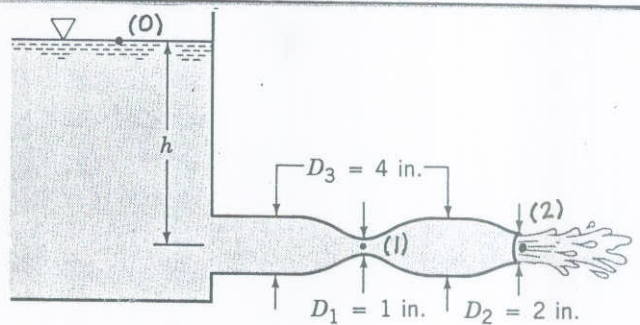

FIGURE P3.75
3.75 Water flows from a large tank as shown in Fig. P3.75. Atmospheric pressure is 14.5 psia and the vapor pressure is 1.60 psia. If viscous effects are neglected, at what height,  $h$ , will cavitation begin? To avoid cavitation, should the value of  $D_1$  be increased or decreased? To avoid cavitation, should the value of  $D_2$  be increased or decreased? Explain.